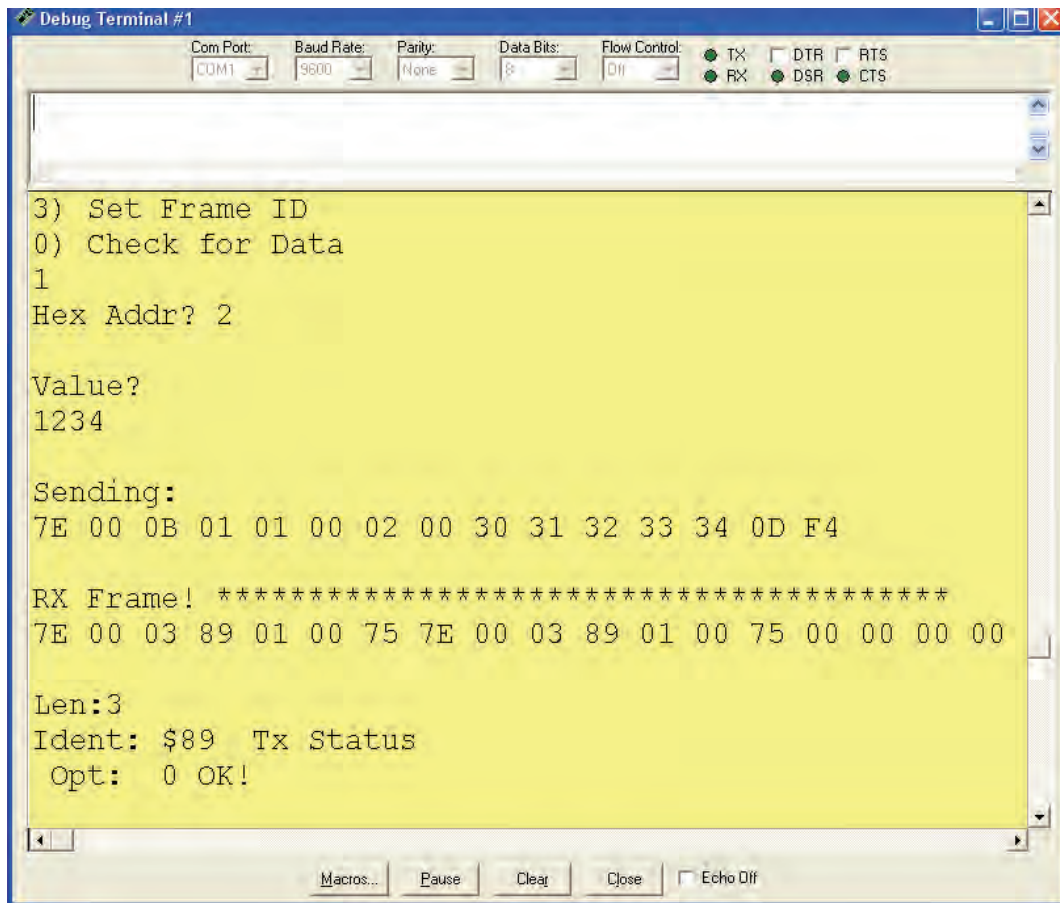

Figure 6-12: API_Base.bs2 Sending Value with Response
- ✓ On the Base, you should see the framed data that was sent, and a reply frame similar to Figure 6-12.